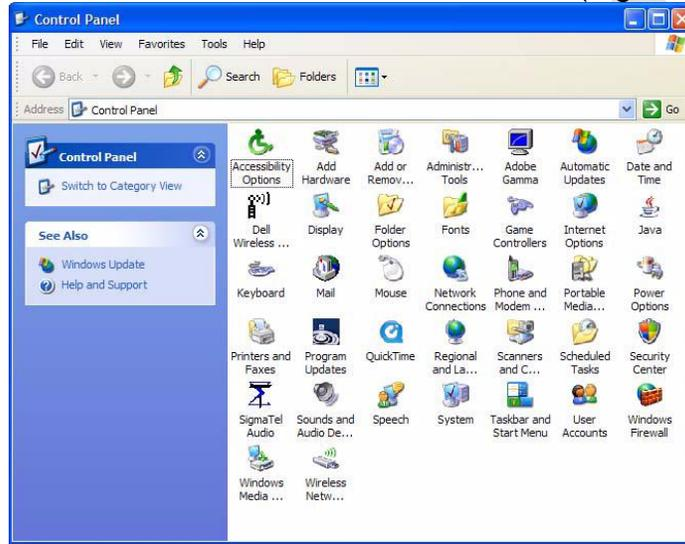

Figure 8-6 Control Panel
1. From the **Start** menu, point to **Settings** and then click **Control Panel**. (Figure 8-6).